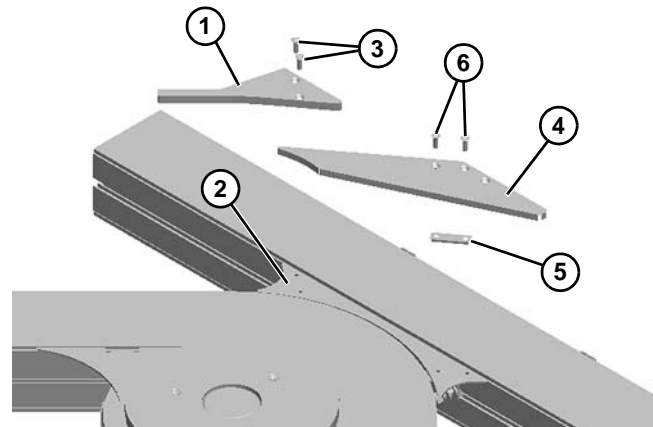

Figure 50
6. Install 45 degree corner guide (Figure 50, item 1) to conveyor tie plate (Figure 50, item 2) with two flat head screws (Figure 50, item 3).
7. Install corner guide (Figure 50, item 4) to conveyor tie plate (Figure 50, item 2) with spacer (Figure 50, item 5) and two flat head screws (Figure 50, item 6).